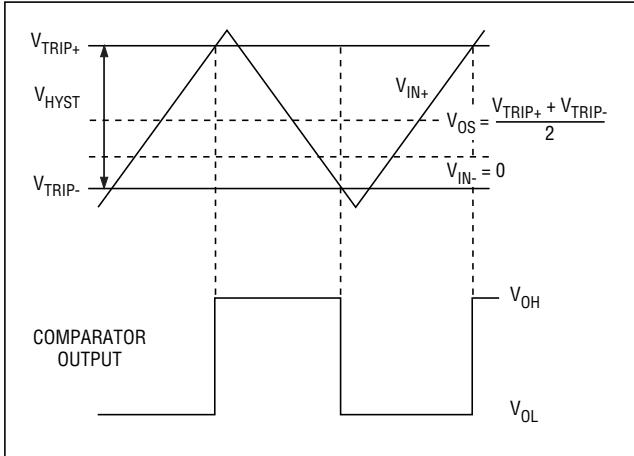

Figure 1. Input and Output Waveforms, Noninverting Input Varied
**Note 2:** Input Offset Voltage is defined as the center of the input-referred hysteresis zone. Specified for  $V_{CM} = 0$ . See Figure 1.
**Note 3:** Trip Point is defined as the input voltage required to make the comparator output change state. The difference between upper ( $V_{TRIP+}$ ) and lower ( $V_{TRIP-}$ ) trip points is equal to the width of the input-referred hysteresis zone ( $V_{HYST}$ ). Specified for an input common-mode voltage ( $V_{CM}$ ) of 0. See Figure 1.
input voltage falling (Figure 1). The difference between these two input-referred trip points is the hysteresis. The average of the trip points is the offset voltage.
Figure 1 illustrates the case where IN- is fixed and IN+ is varied. If the inputs were reversed, the figure would look the same, except the output would be inverted.